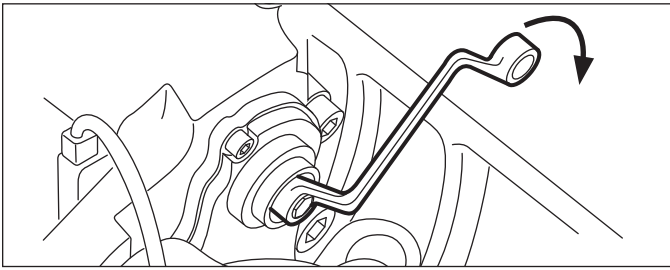

FIGURE 40 - RUNNING CLEARANCE ADJUSTMENT
- 5.2.20 Using a 10mm. six-point box wrench, turn the Shear Adapter (61) **counter-clockwise** and listen for the sound of 3 clicks as the mechanism backs-off (increases) the running clearance. Note: Do not use an open-ended wrench as this may damage the adapter. (See Figure 40).